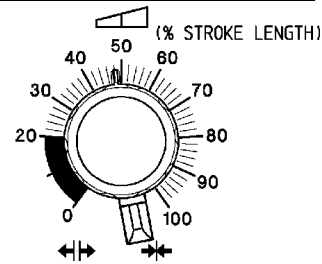

FIGURE 10
- Stroke frequency can be set by means of the stroke rate adjusting knob even while the pump is in operation. (See Figure 10)